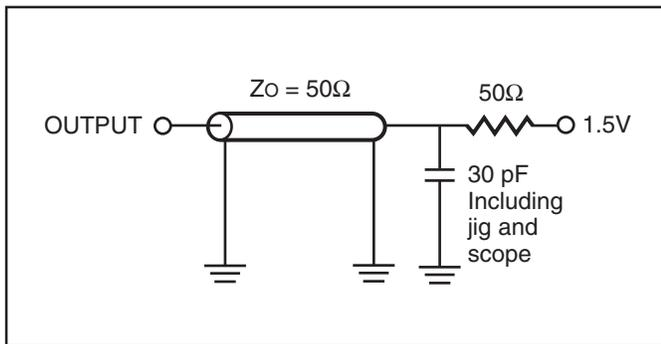

Figure 1.
1. Test conditions assume signal transition times of 3ns or less, timing reference levels of 1.5V, input pulse levels of 0V to 3.0V and output loading specified in Figure 1.
1. Test conditions assume signal transition times of 3 ns or less, timing reference levels of 1.5V, input pulse levels of 0V to 3.0V and output loading specified in Figure 1.